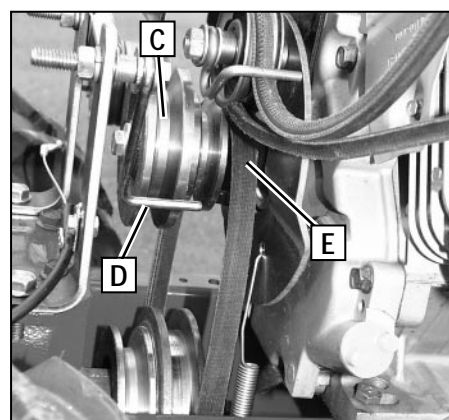

Figure 5-16 : Right-side view.
4. Slide the belt off the engine pulley (C, Figure 5-16), away from engine, out from under the belt guide (D), and completely off the pulley.
5. Reconnect the forward clutch cable to the correct hole in the idler arm bracket, as shown in Figure 5-16.